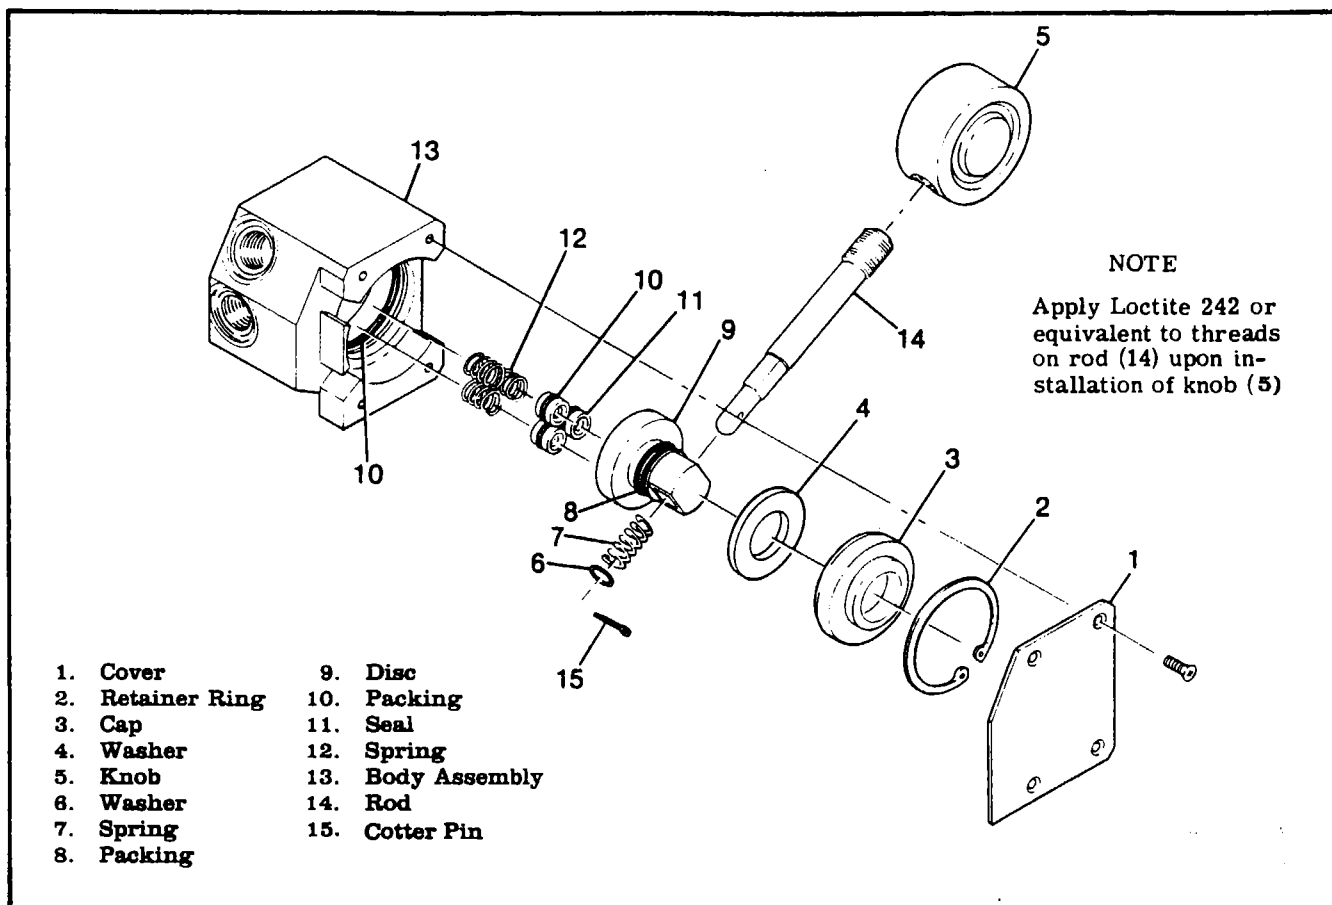

Figure 5-7. Gear Selector Valve
5-31. LANDING GEAR SELECTOR VALVE. (Refer to figure 5-7.)
5-33. REMOVAL AND INSTALLATION. (Refer to figure 5-7.)
5-34. DISASSEMBLY AND REASSEMBLY. (Refer to figure 5-7.)
- Remove cover (1), retaining ring (2) and cap (3).
- Remove cotter pin (15), washer (6) and spring (7).
- Pull rod (14) from disc (9); remove disc.
- Remove seals (11) and springs (12).
5-35. INSPECTION AND REPAIR. (Refer to figure 5-7.) Replace packings (8) and (10). Check valve for wear, foreign or abrasive materials. Disc (9) may be refaced (lapped) if worn or abraded.